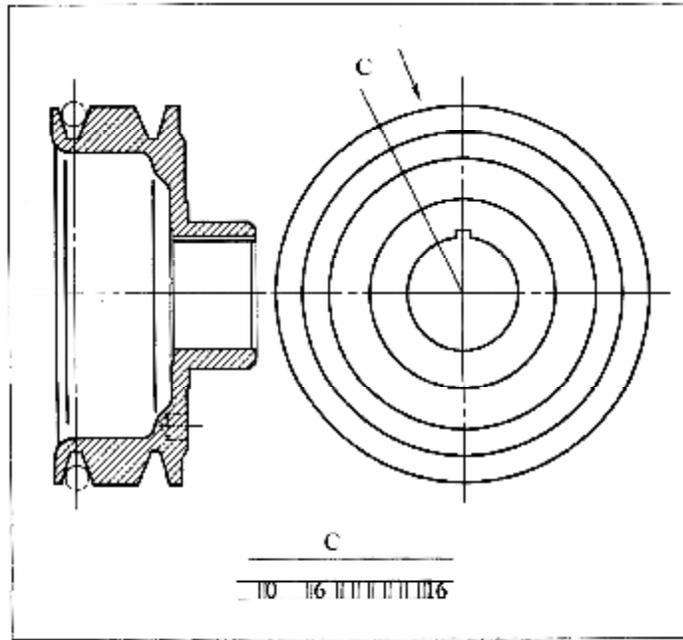
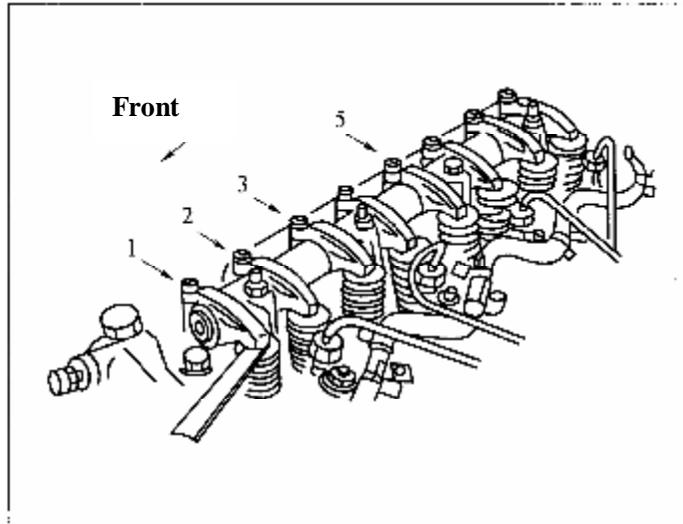

Figure 8-10 Crankshaft Pulley
Figure 8-11 Adjustment of Valves No. 1, 2, 3 and 5
A tilted convex rib is forged on the gear chamber cover, and there are the inscribed lines on the crankshaft pulley (see Figure 8-10), which are used for the adjustment of top dead center.
(1) Turn crankshaft till 1st cylinder piston reaches TDC of compression stroke, saying pulley TDC mark "0" aligns the pointer on gear cover, and intake/exhaust valves in 1st cylinder are both closed (see Figure 8-10). Perform adjustment on 1,2,3,5 valves(see Figure 8-11).